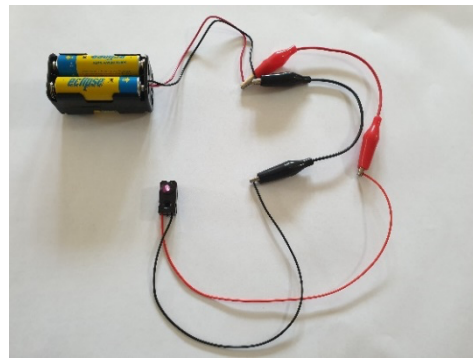

Figure 19
Using lasers may be of concern in some classroom situations. An alternative approach is to use a different type of sensor. Infrared (IR) sensors, like the one shown in Figure 19, work just as well. There are 5 mm and 3 mm versions available. The 5 mm will have a slightly longer range; however, if you are placing the emitter (transmitter) and receiver close together, the 3 mm version will work just as well. A set of the 3 mm version should be easy to find for under \$5.00.